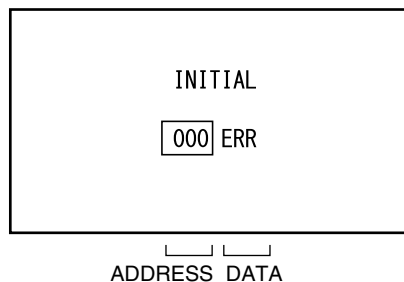

Fig. 1
3. Press both Channel button (6) on the remote control and the STOP button on the set for more than 2 seconds. ADDRESS and DATA will appear on TV Monitor as Fig 1 and the ADDRESS is now selected.